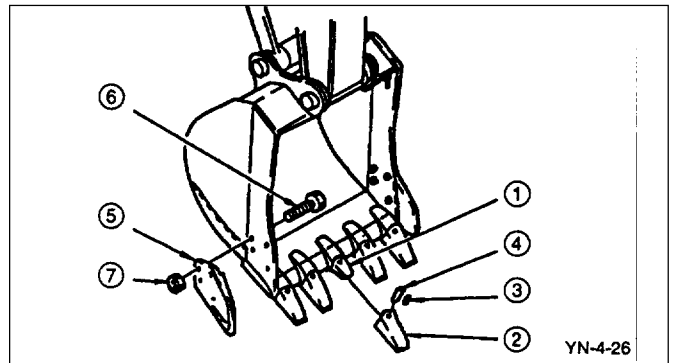

FIGURE 4.57A
**a. Parts description, see Figure 4.57A:**
- (1) adapter nose, (2) tooth point, (3) rubber lock pin, (4) locking pin, (5) side cutter, (6) cap screw, (7) Nut.